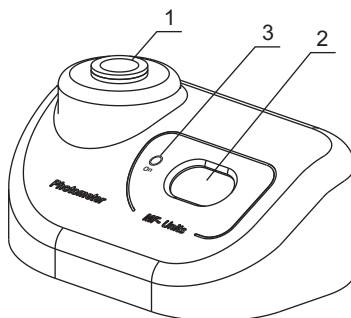

Fig.3 General view
- 3.4.5. Insert the tube with the standard solution, corresponding to the calibration point value, into the socket (fig.3/1) of Densitometer.
The display goes off if there is no tube in the socket during one minute. Press the **On** key (fig.3/3) to activate the unit.
- 4.3. The following indication may be shown on the display (fig.3/2):
- 4.4. Shake the tube with the solution (it is recommended to use a vortex for shaking, e.g. V-1 plus personal vortex) and insert it into the socket of Densitometer (fig.3/1). The McFarland value for the solution will be shown on the display (fig.3/2).